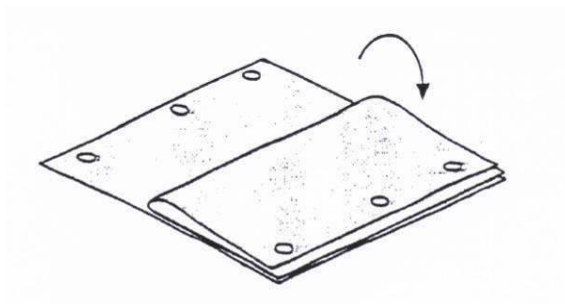

figure 1
- Place the double-layer filter cloth on a level surface and fold one half of the cloth together from the middle according to the following figure 1 and 2.